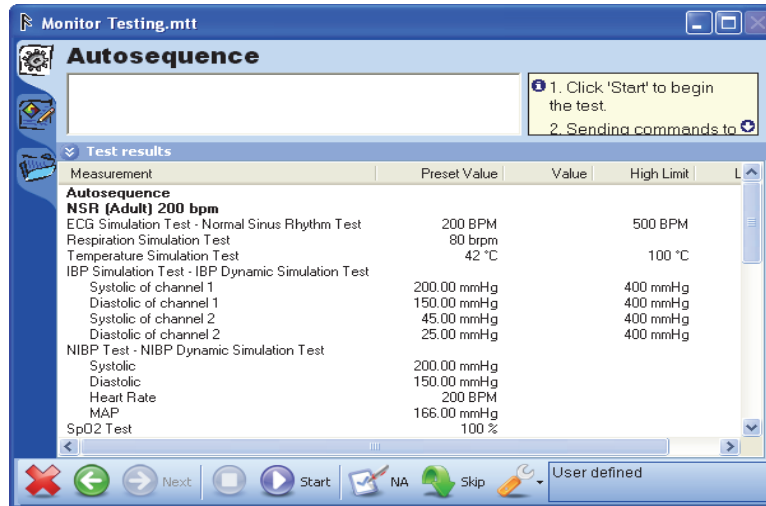

Figure 3-21. Autosequence Test Step Test Guide
2. Click **Start | Test** from the main menu or click  on the main toolbar to open the test guide shown in Figure 3-21.